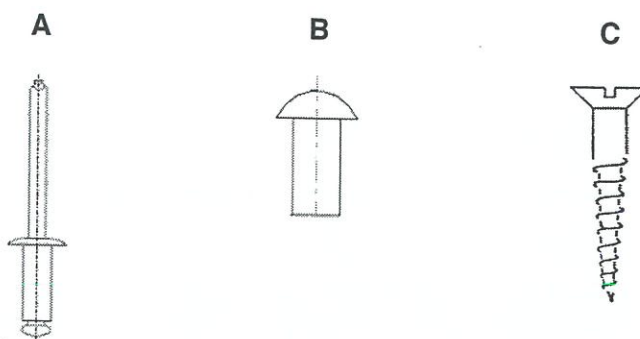

Fig. 2
11 Fig. 2 shows fixing devices used to join materials.
- (b) For each fixing shown in Fig. 2, name the main tool needed to lock or drive fixings. [3]